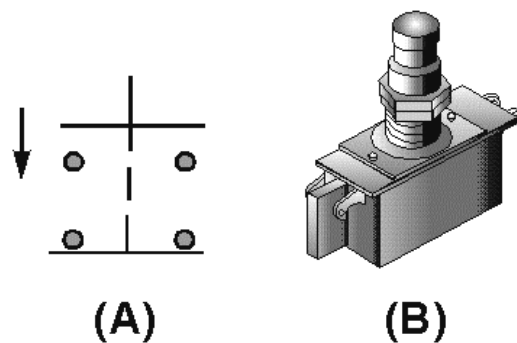

Figure 3-5.—Double-break pushbutton switch.
Switches can also be classified as SINGLE-BREAK or DOUBLE-BREAK switches. This refers to the number of places in which the switch opens or breaks the circuit. All of the switches shown so far have been single-break switches. A double-break switch is shown in figure 3-5. The schematic symbol shown in figure 3-5(A) shows that this switch breaks the circuit in two places (at both terminals). The upper part of the schematic symbol indicates that these contacts are in the open position and the circuit will close when the switch is acted upon (manually or automatically). The lower symbol shows closed contacts. These contacts will open the circuit when the switch is acted upon.
Figure 3-5(B) is a picture of the switch. This switch is called a pushbutton switch because it has a button that must be pushed to change the switch contact connections. Notice that the switch has four terminals. The schematic symbol in figure 3-5(A) shows that when one set of contacts is open, the other set of contacts is closed. This switch is a double-pole, single-throw, double-break switch.